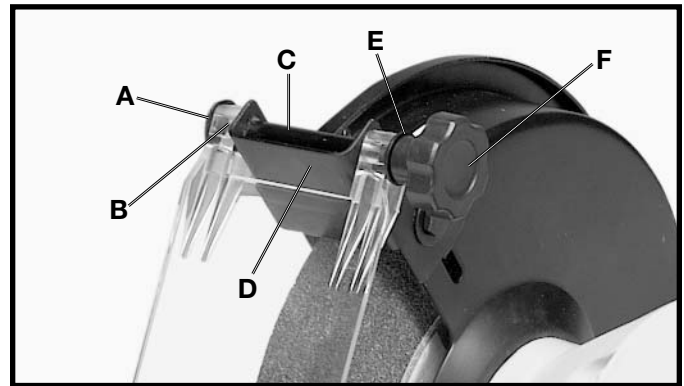

Fig. 8
3. Insert the eye shield bolt (A) Fig. 8, through the hole in the eye shield (B), eye shield spacer (C), and spark guard (D).
4. Place an 1/4" flat washer (E) Fig. 8, onto the end of the eye shield bolt and fasten the eye shield knob (F) to the end of the eye shield bolt.